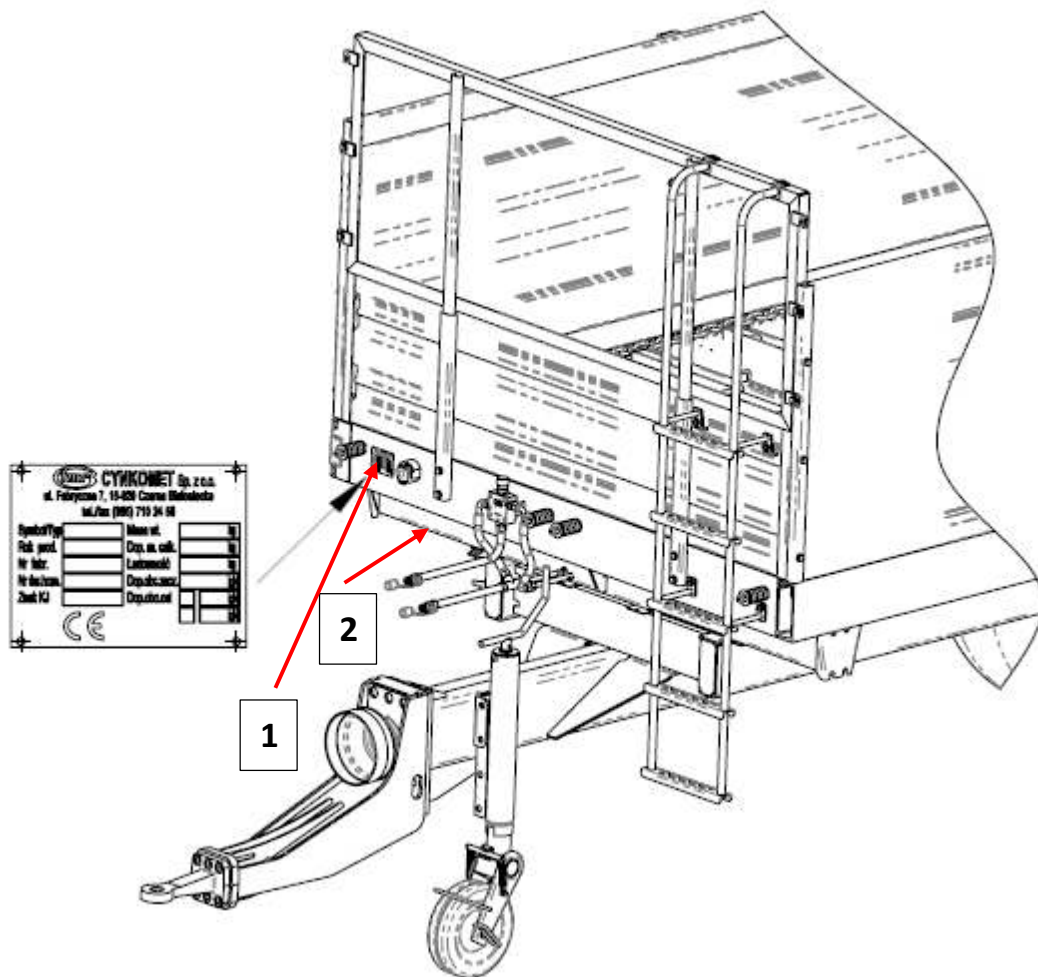

Figure 1. Location of the nameplate and issue of the serial number
The manure spreader is marked with the use of a nameplate (1) and a serial number (2). The serial number is located on the front beam of the lower frame, and the nameplate is located on the front beam of the upper frame - figure 1.